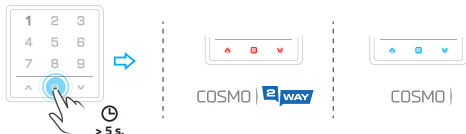

Fig. 14
2. Press and hold the **P1 + P2** function buttons on the back of the controller for 20 seconds at the same time. - Fig. 14.
2. Press and hold the **STOP** button for about 5 seconds - Fig. 14.